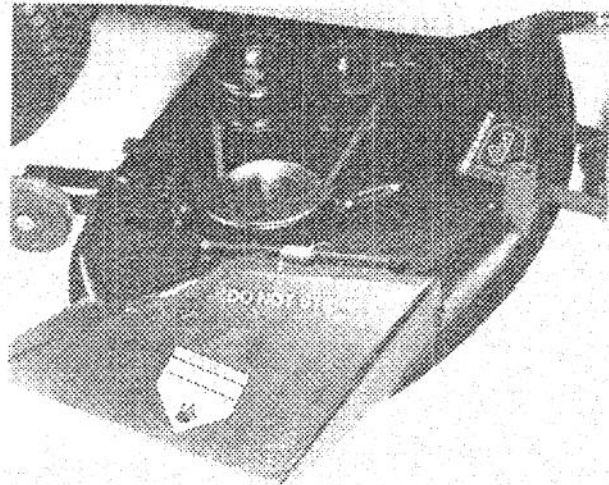

Figure 36
2. Set the cutting unit down on the wheels and rollers and slide the cutting unit under the tractor (Fig. 36).